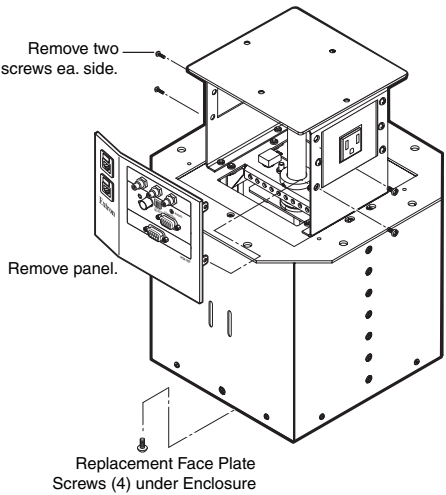

Figure 3-2 — Removing the AAP/RJ-45 panel
2. Remove and retain the top and bottom screws on the right and left sides of the AAP/RJ-45 panel (figure 3-2). Lift the panel away from the enclosure as far as the connected cables allow and then allow the panel to dangle, supported by its connected cables.
1. Remove and retain the top and bottom screws on the right and left sides of the AAP/RJ-45 panel (figure 3-2). Lift the panel away from the enclosure as far as the connected cables allow and then allow the panel to dangle, supported by its connected cables.